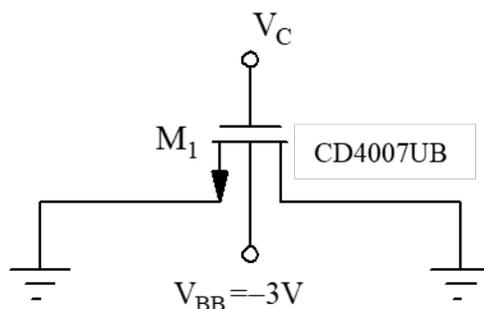

Figure PL3.1(a)
- (a) For the MOS transistor circuit shown in Fig. PL3.1(a) below, calculate and tabulate (using the *Results Sheet for Preliminary Exercises*) the values of the small-signal resistance R_{MOS} from drain to source for values of control voltage V_C ranging from 0V to 10V, in steps of 1V. Then, plot your values of R_{MOS} versus V_C on a graph. Again, assume the MOS device parameters given at the beginning of this pre-lab.
- (b) For the inverting amplifier circuit shown in Fig. PL3.1(b) (which uses an op amp defined by 'lmc6482.mod' and an MOS transistor with parameters as in the beginning of this pre-lab defined by 'cd4007ub.mod'), calculate and tabulate (using the *Results Sheet for Preliminary Exercises*) the gain V_o/V_i of this amplifier for values of control voltage V_C ranging from 0V to 10V, in steps of 1V. Then, plot the gain versus V_C on a graph. (Hint: Be careful when determining gain at $V_C=0\text{V}$)